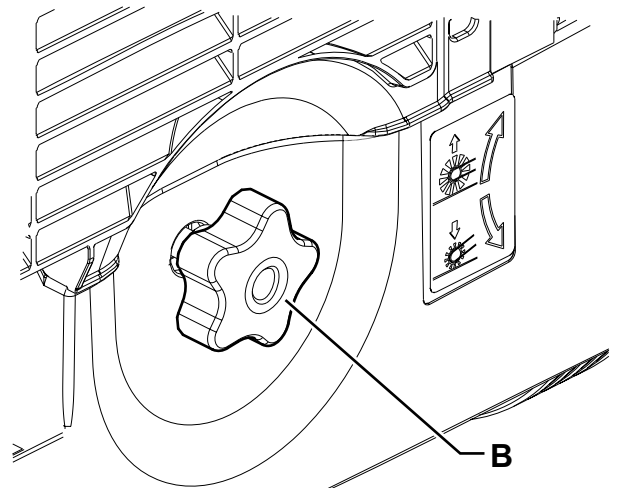

Figure 3
7. Turn the ignition key (2) to "0".
8. Turn the knob (B, Fig. 3) as shown below: